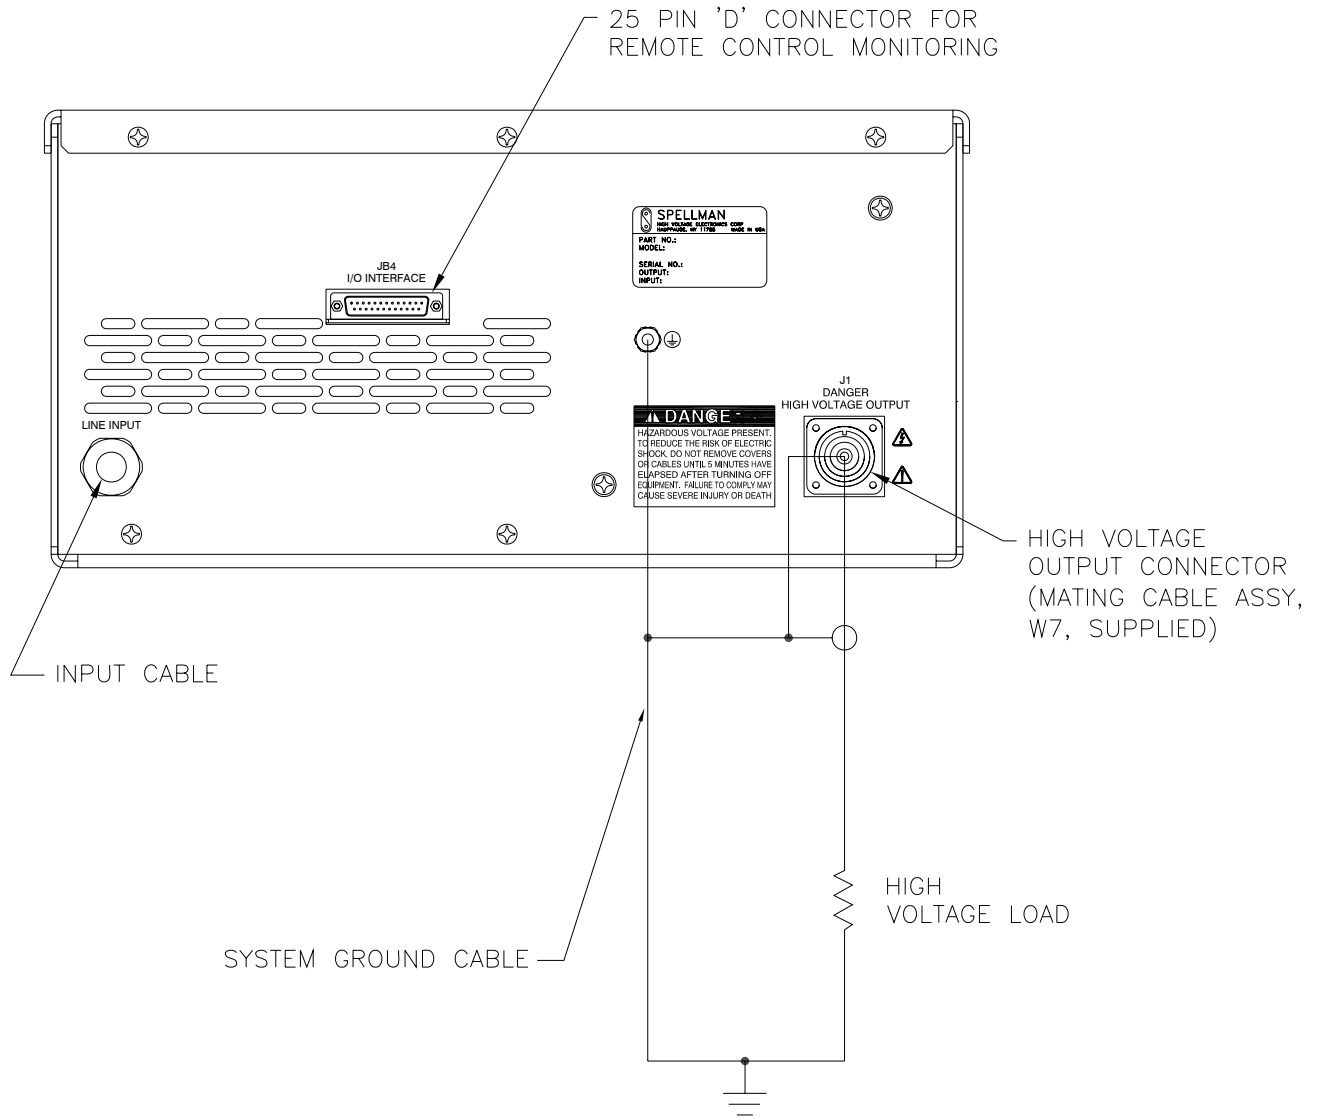

Figure 3.1 Typical Operating Setup
- A) Insure that the Circuit Breaker is in the OFF position (0).
- C) **PROPER GROUNDING TECHNIQUES:** The chassis of high voltage power supplies must be grounded, preferably to a water system ground using copper pipe or other earth ground using the ground stud B1 at the rear of the unit. See Figure 3.1 for a typical operating set-up.